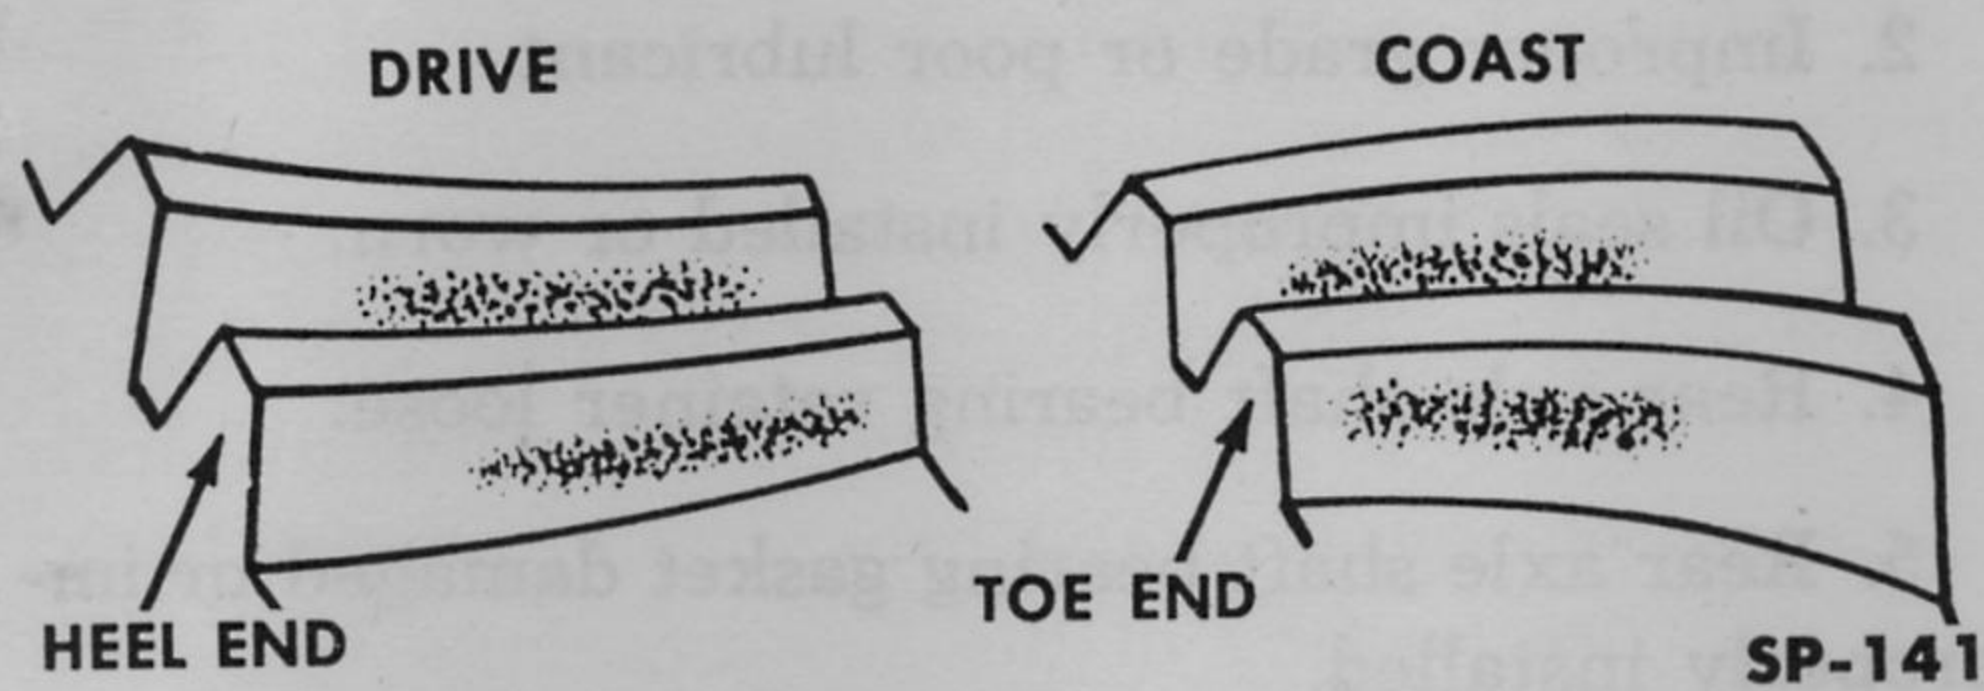

Fig. 276—Proper Gear Tooth Contact
6. After proper backlash has been established it may be desirable to check for proper tooth contact. Apply a mixture of ground red lead and engine oil to a few drive gear teeth. Rotate the drive gear over the pinion until a good impression of the tooth contact is obtained. If the adjustment is correct the impression should be similar to the example illustrated in Fig. 276.